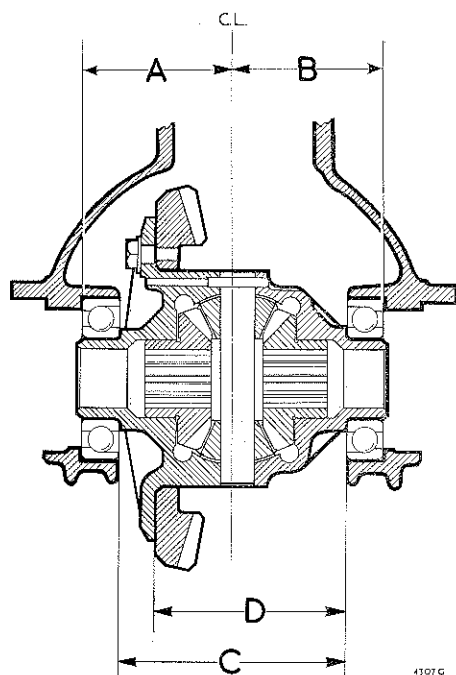

Fig. 7
Before fitting the crown wheel and differential assembly to the differential carrier it is necessary to calculate the amount of shim thickness. To assist in the calculations of the thickness of shims to be fitted behind each differential cage bearing, variations from the standard dimensions are indicated by stamped numbers on the carrier adjacent to the bearing bores. The variations to be considered are shown in Fig. 7, (A) being the distance from the centre-line to the bearing register of the carrier on the left-hand side and (B) the distance from the centre-line to the bearing register of the carrier on the right-hand side. The (C) dimension is from the bearing register on one side of the cage to the register on the other side, while the (D) dimension is from the rear face of the crown wheel to the bearing register on the opposite side. Any variation from standard on the (A) dimension will be found stamped on the carrier adjacent to the bearing bore, and similarly with the (B) dimension. The (C) and (D) variations are stamped on the machined face of the differential cage.